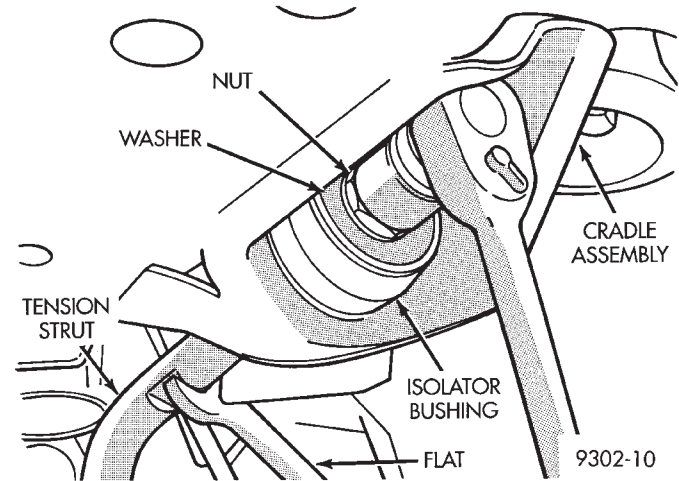

Fig. 36 Tension Strut To Cradle Mounting
(1) Install lower control arm and tension strut as an assembly back on the vehicle. See Lower Control Arm in the Removal and Installation section of this service manual for the required installation procedure.
(2) Install washer on end of tension strut (Fig. 36). Install a **NEW** tension strut to cradle bracket nut, on tension strut (Fig. 36). Tighten the tension strut to cradle bracket retaining nut to a torque of 150 N·m (110 ft. lbs.). When torquing tension strut nut, keep tension strut from turning by holding tension strut at flat using an open end wrench (Fig. 36).